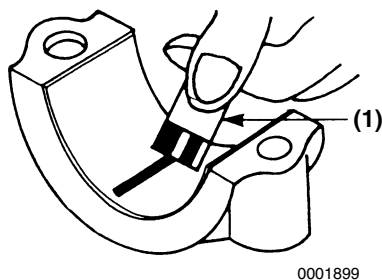

Figure 6-99
- Compare the width of the flattened PLASTIGAGE to the graduation marks on the package **(Figure 6-99, (1))**. The mark that most closely matches the width of the flattened PLASTIGAGE will indicate the bearing oil clearance.